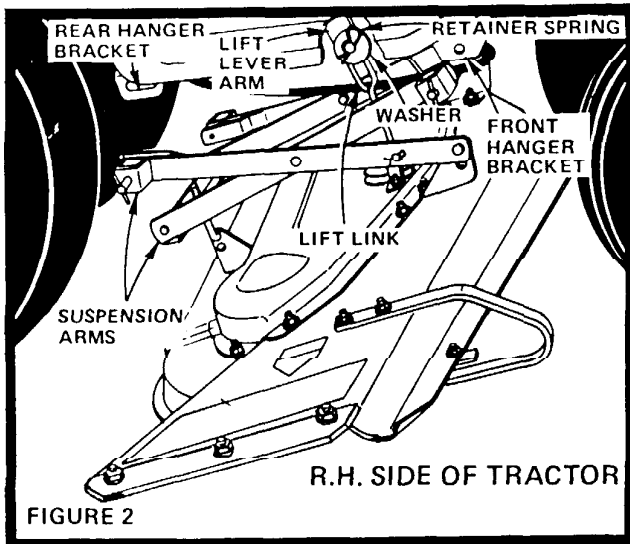

FIGURE 2
4. Position Mower on R.H. side of tractor as shown (Fig. 2).
7. Slide Mower under tractor with Suspension Arms directly beneath Hanger Brackets (Fig. 2).
8. Attach Lift Links to Lift Lever Arm both sides as shown in Fig. 2 using:
10. Grasp Suspension Arms and raise to align with holes in Front and Rear Hanger Brackets (Fig. 2).